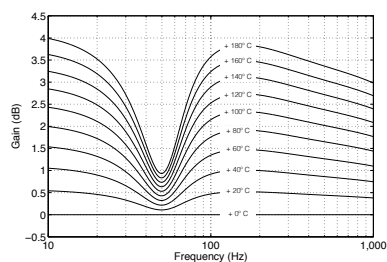

Figure 17.5: Magnitude responses of the compensating filter for BeoLab 90’s front woofer vs. the temperature of its voice coil.
make a filter that “undoes” the effect of temperature on the loudspeaker’s response. For example, if the woofer’s voice coil gets 160°C above room temperature (where we originally measured it), it drops 3.2 dB at 20 Hz, the BeoLab 90 knows this and adds 3.2 dB at 20 Hz. In order to do this, the processing of the BeoLab 90 includes a set of filters (one for each driver) whose response varies in time with the temperatures of the the drivers. The temperature-dependent filters for the front woofer are shown in Figure 17.5.
- This particular filter shown in Figure 17.5 should only be